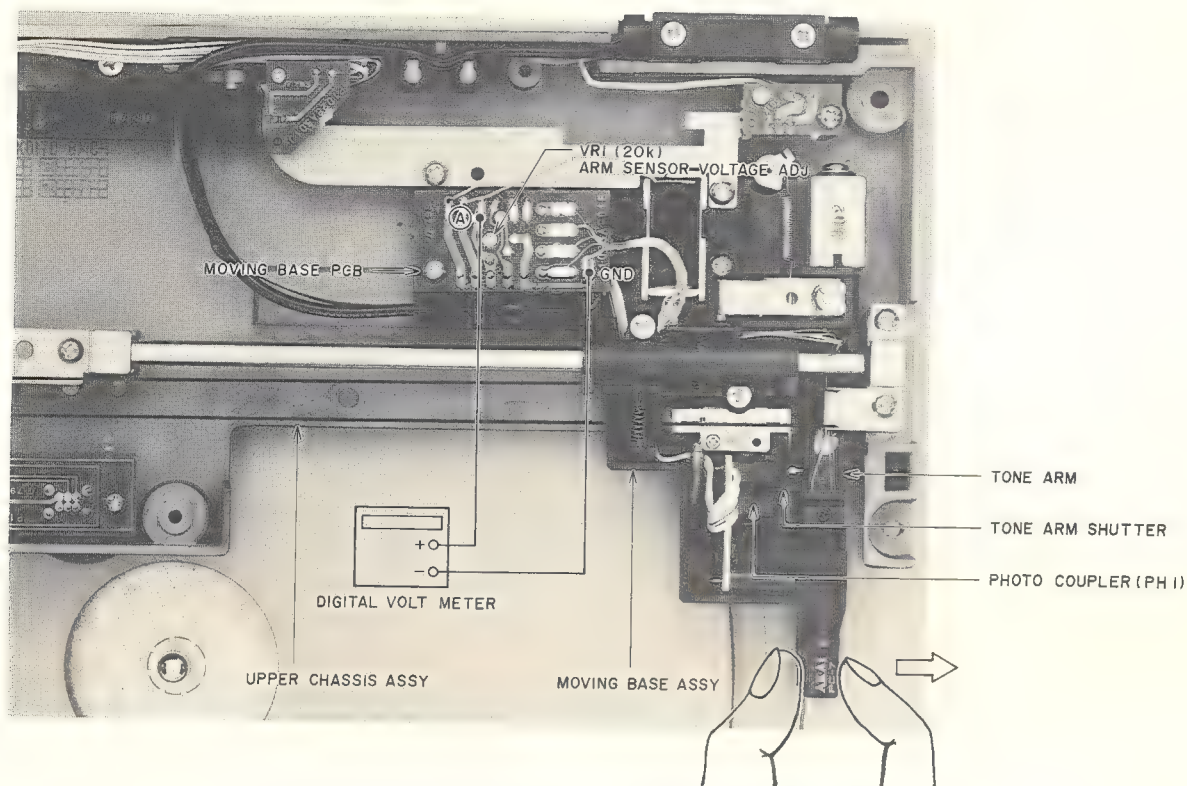

Fig. 7-1 Inside View of Moving Base Block
7-1. ARM SENSOR VOLTAGE ADJUSTMENT (Refer to Fig. 7-1)
- 2) Connect a digital voltmeter between the point (A) and ground. Move the Tone Arm by hand in the direction as shown in Fig. 7-1 to move the Tone Arm Shutter out of the photocoupler, and adjust VR1 on